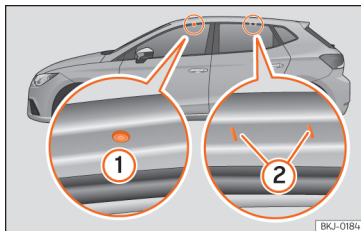

Fig. 121 Attachment points for the roof railings for the roof carrier system.
The front and rear attachment points ① and ② are only visible when the doors are open »» **Fig. 121.**